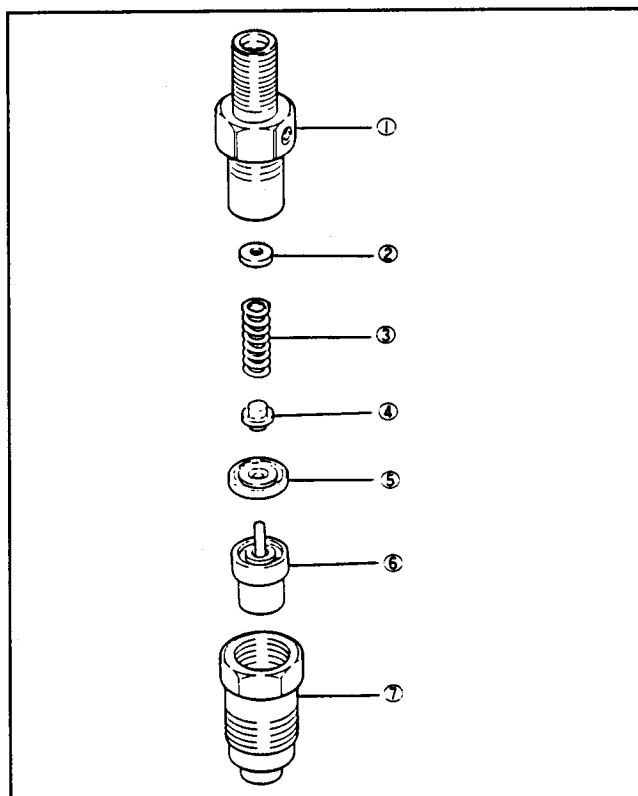

Figure 64
3. Secure the nozzle holder in a vise that has aluminum or brass jaw plates. To prevent deformation do not clamp the vise onto the retaining nut (Fig. 64).